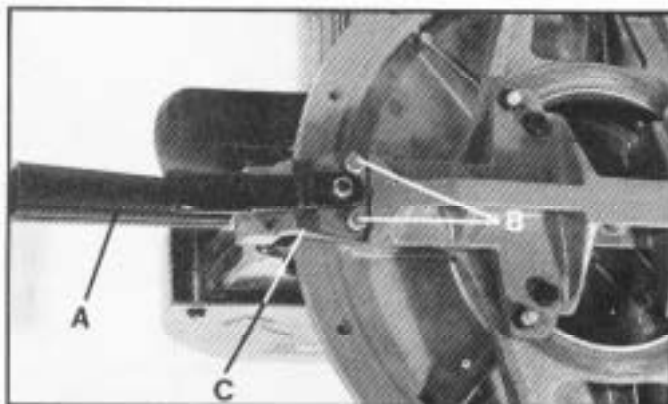

Fig. 23
4. If an adjustment is necessary, loosen the arm lock handle (A) Fig. 23, and the two screws (B). Then tap the arm (C) to the right or left as necessary, and tighten the two screws (B).